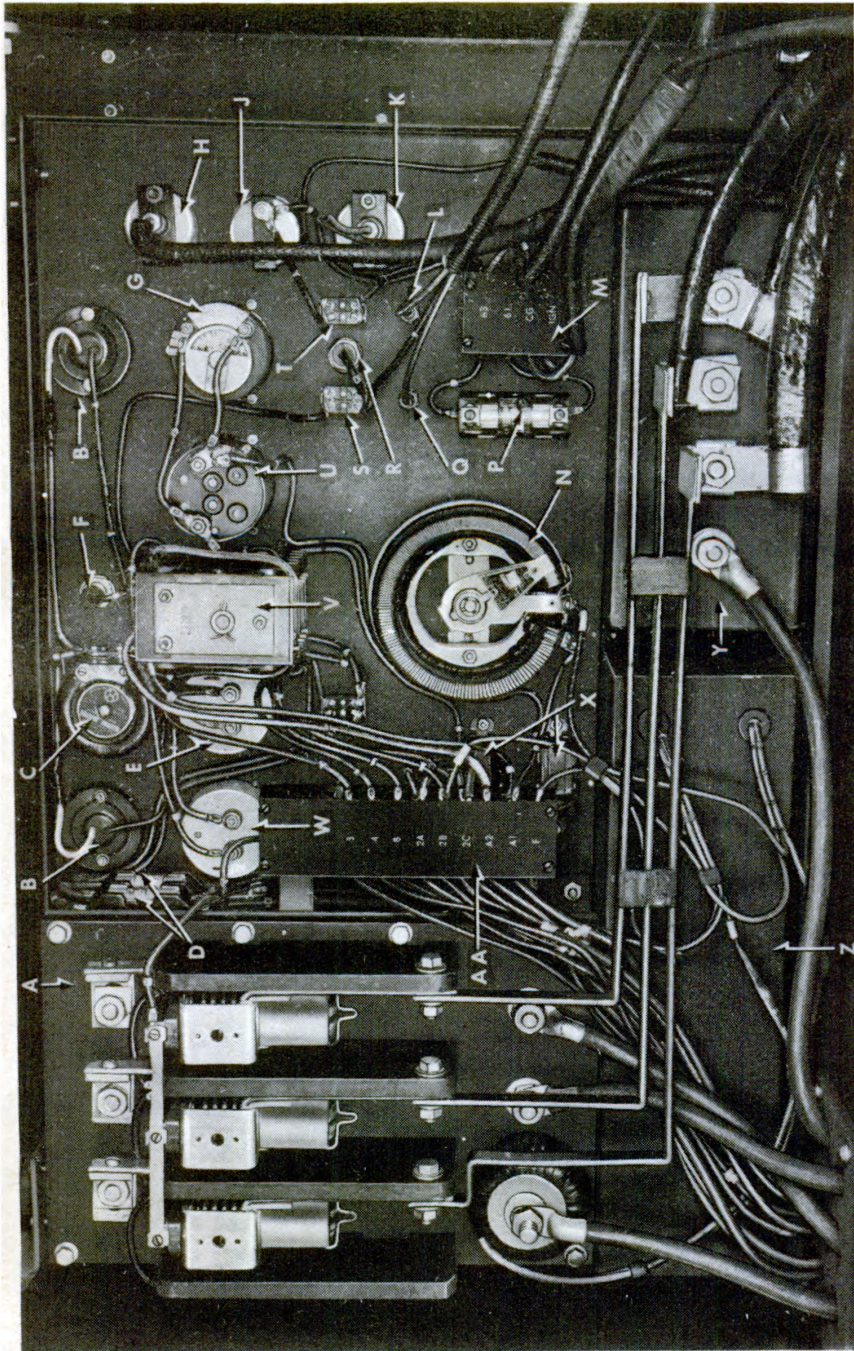

Figure 72 – Instrument Panel – Rear View
- (1) Take nuts from inverted flare tube fitting at back of gage (fig. 72), and remove line from instrument.
- (2) Take nuts and star washers from bracket. Remove bracket and gage.
Legend for Figure 72 — Instrument Panel — Rear View